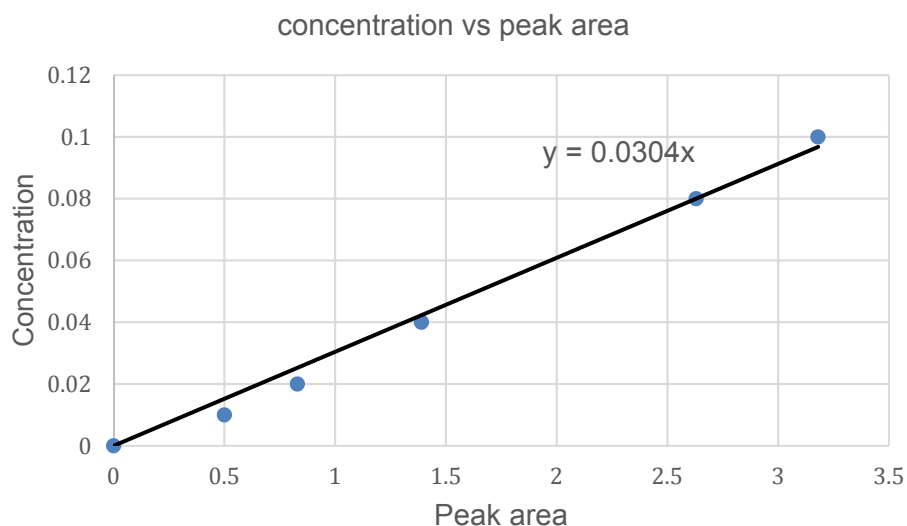

Fig. 5.3
- (d) A student wishes to determine the concentration of product **A** obtained. The student prepares 5 solutions of known concentrations, 0.0100, 0.0200, 0.0400, 0.0800 and 0.100 mol dm⁻³ of product **A**. 10 µL of each solution with the sample was used and a high performance liquid chromatogram was obtained. The peak areas of the chromatographs are given in the table below and a graph of concentration against peak area was obtained in Fig.5.3.